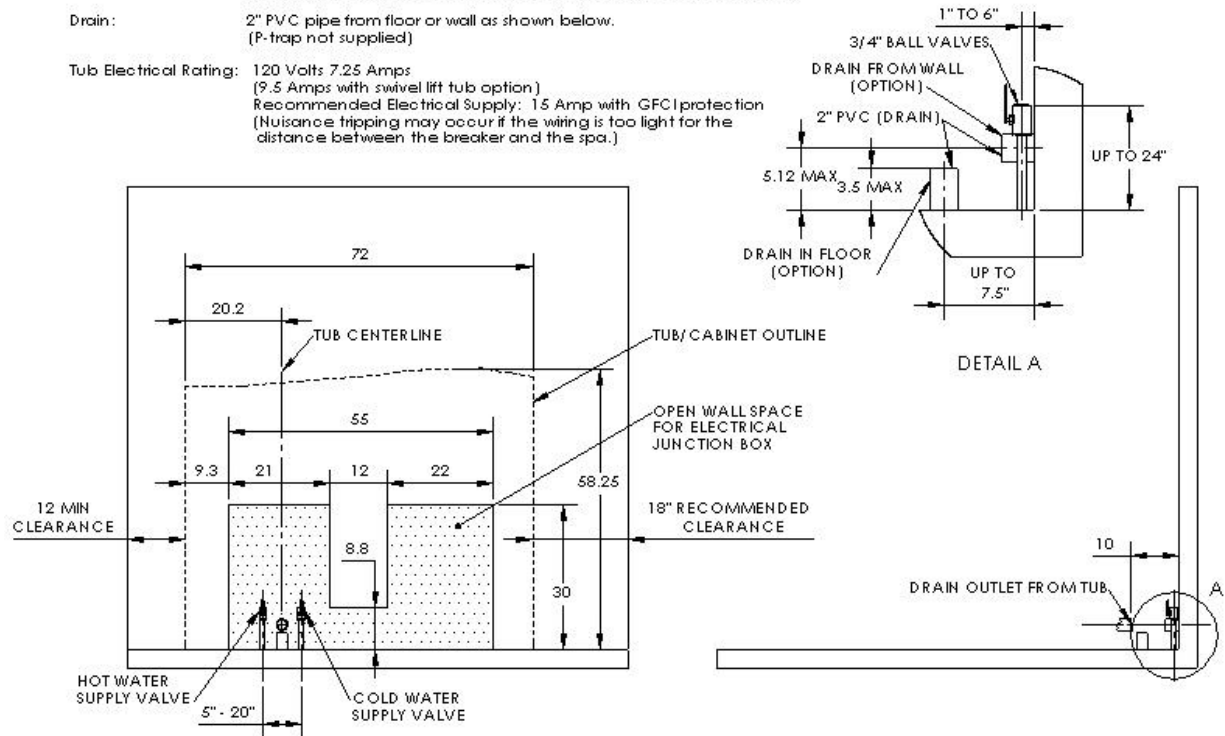
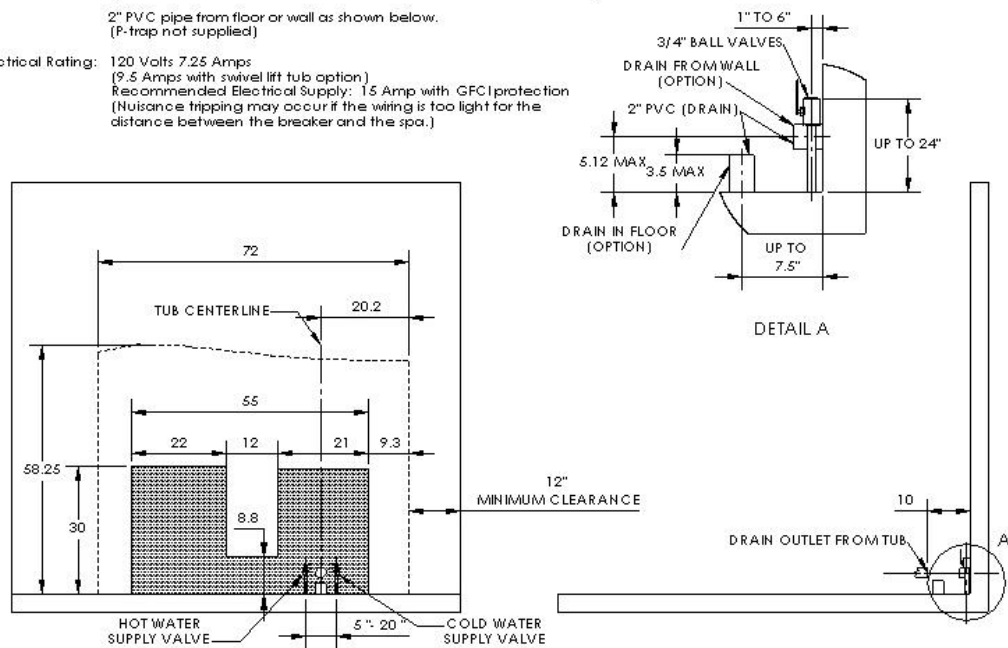

Figure 2
Figure 3
Figure 2 shows two different options for roughing in the drain pipe – from the floor or from the wall. The tub is equipped with a 2” nominal (2 3/8” O.D.) PVC drain pipe.
3/4” supply lines with on/off valves with 3/4” NPT Male threads. We recommend 3/4” ball valve with 3/4” NPT female ports. (Valves supplied by others.) See figure 2 for recommended locations.
The tub is equipped with a 2" nominal (2 3/8" O.D.) PVC drain pipe. As shown in **Figure 2 (RH)**, **Figure 3(LH) of page 5**, the tub's drain pipe is approximately 10" from the wall and 5 1/4" above the floor. Figure 2 & 3 shows two different options for roughing in the drain pipe – from the floor or from the wall.
3/4" supply lines with on/off valves with 3/4" NPT Male threads. We recommend 3/4" ball valve with 3/4" NPT female ports. (Valves supplied by others.) See **Figure 2 (RH)**, **Figure 3(LH) of page 5**, for recommended locations. For optimum performance, dynamic pressures should be nominally equal between hot and cold supplies. Maximum static supply pressure: 145 PSI. Maximum dynamic/maintained supply pressure: 81 PSI. Maximum supply Hot water temperature: Consult local requirements for maximum allowed supply temperatures. (Not recommended over 120°F)